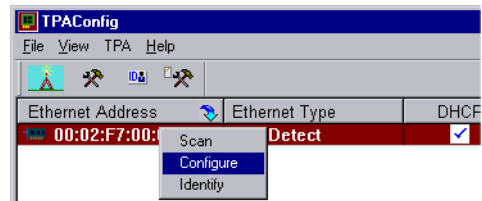

Figure 2-6 MultiTrace units configuration
- a. Either right mouse click and select **Configure** from the popup menu, select **TPA → Configure** from the main menu (see Figure 2-6), or click the Configure icon on the toolbar.